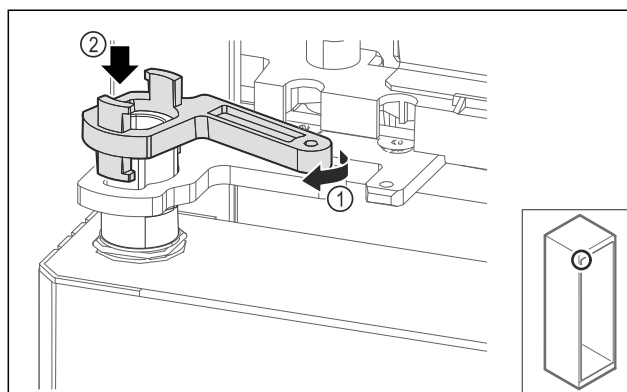

Fig. 58
- Turn the swap bearing block lock slightly and place it on the sleeve Fig. 58 (2).